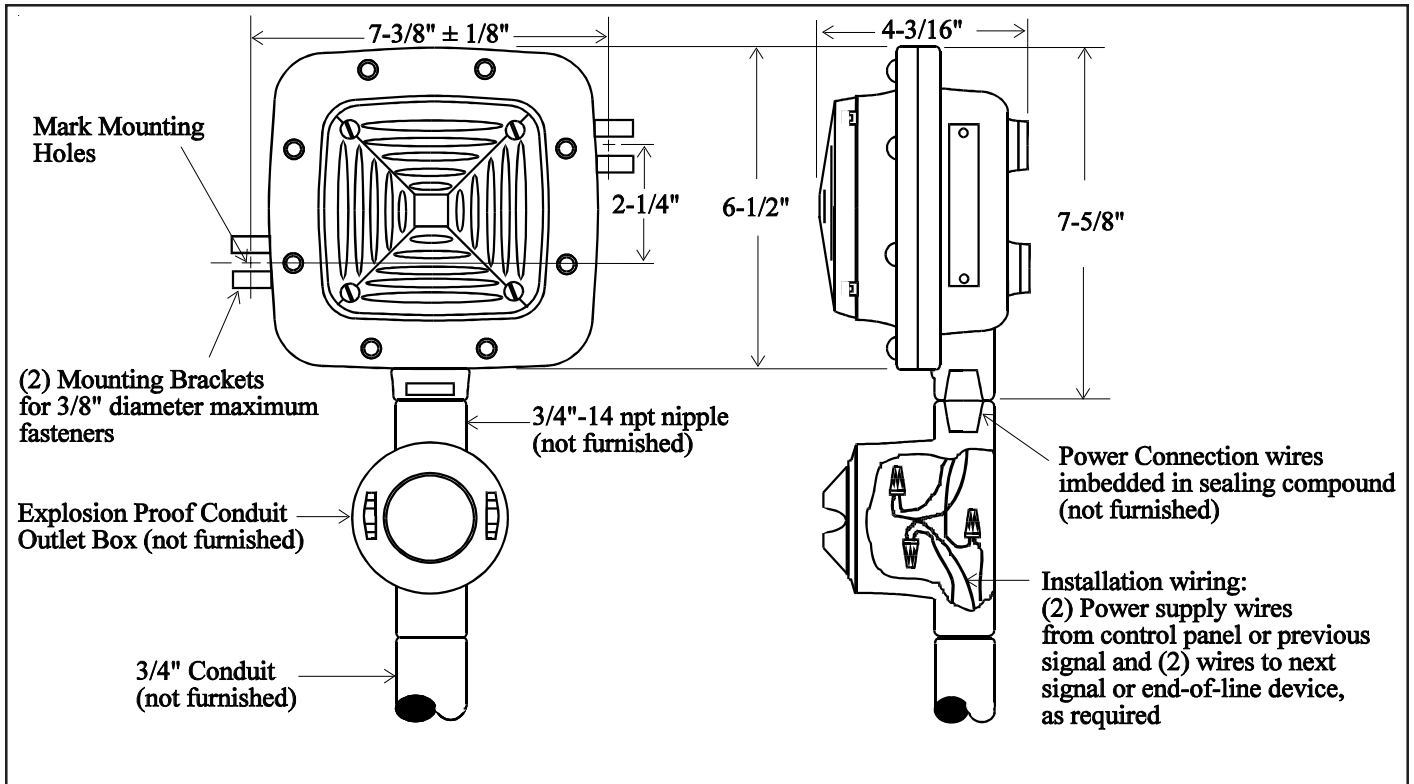

Figure 1. Signal Mounting Details
1. See Figure 1. Remove the cover from the conduit outlet box. Feed the two power supply wires from control panel or previous signal and the two wires to next signal or end-of-line device through conduit into the outlet box. Also, feed the horn's three power connection wires through the nipple, which connects the horn to the outlet box, into the box. Secure the horn and conduit to the outlet box.
2. With the horn placed against mounting surface, mark mounting hole positions for fasteners as per Figure 1. Install fasteners with washers through mounting brackets and secure unit to surface.